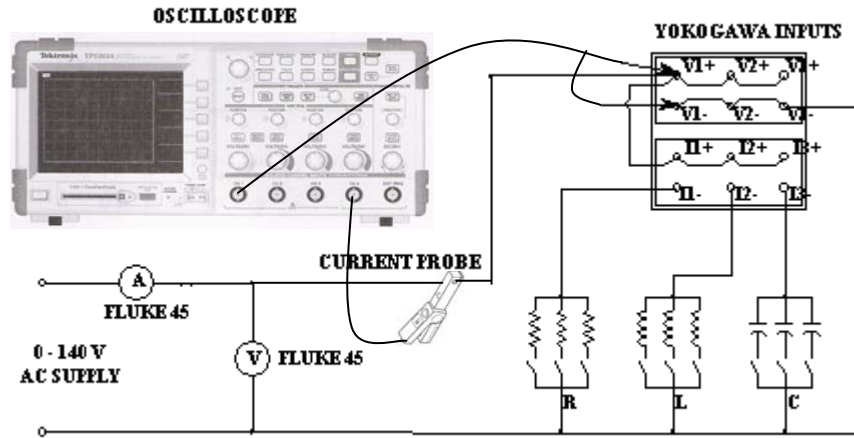
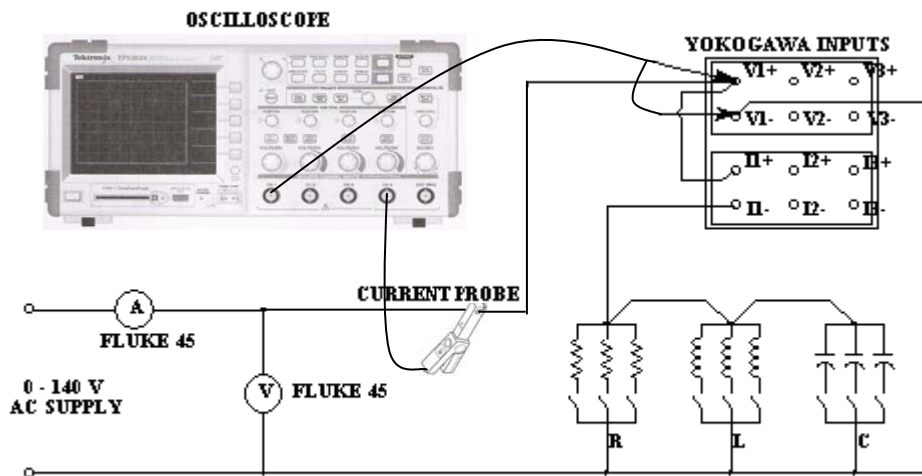

Figure 1. Circuit Connections for Load Quantity Measurements.
Figure 2. Circuit Connections for Line Quantity Measurements.
In reference to Figures 1 and 2, the following four (4) load configurations are considered:
3. Construct the circuits shown in Figures 1 and 2 with a supply voltage of 120 V. This voltage should be maintained fixed throughout the experiment, since it is the control variable.
It is recommended that you first perform the experiment with the connections shown in Figure 1 to record all of the information for each parallel element. Then reconnect the equipment as shown in Figure 2 and record the line data.
4. For each of the four (4) load configurations that you have used for the pre-lab calculations, record the appropriate value of the *load* variables in *Table 1* and the *line* variables in *Table 2*. Note that the Yokogawa digital meter can be used for reading the values. The lagging or leading power factor can be determined from the voltage and current traces that are being displayed on the oscilloscope.
5. Use the CompactFlash Card to store pictures of voltage and current traces of cases 1, 2, and 4 for the circuit of Figure 2.